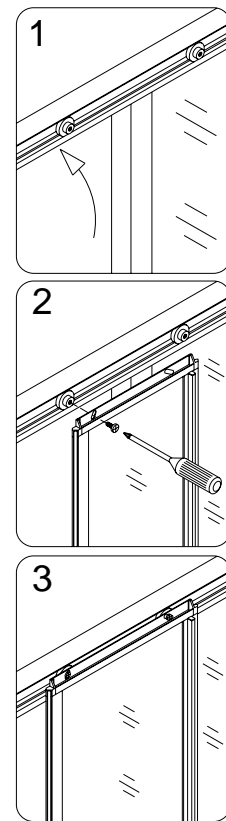

Fig. 8
9. Put two **Wheel assemblies (25)** into the groove of the upper guide rail; then place the **Glass door (07)** to the position as shown on Fig 8. Secure it using **Bolt M5x8 (24)**. See Fig 8 for details. Repeat the same for the bottom guide rail.